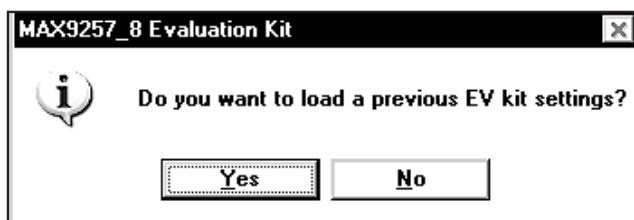

Figure 2. MAX9257/MAX9258 Evaluation Kit Software—Load Previous EV Kit Settings
- 13) The next popup window (Figure 2) asks if you want to load a previous EV kit setting from a file. If this is the first time the software is run, you can choose from three EV kit setting files included with the software: **NeverComeBackSettings.txt**, **FiniteCTOSettings.txt**, or **I2CSettings.txt**. Press the **No** button.